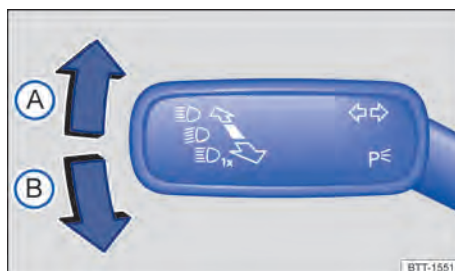

Fig. 76 On the left-hand side of the steering column: direction indicator and high beam lever.
2. Move the lever from the centre position to the desired position → Fig. 76.